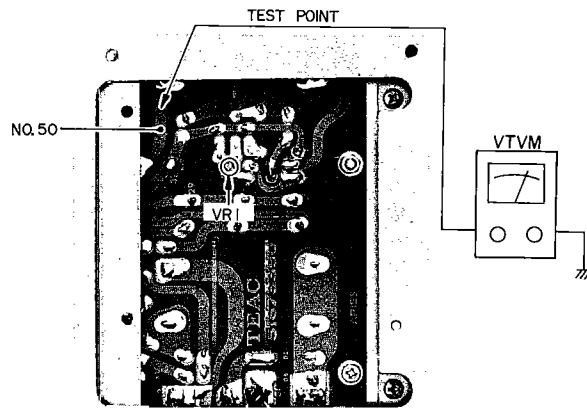

Fig. 8-2 +23 V DC Test Point T-704
3. Connect a VTVM between the Power Supply P.C.B. Test Point No. 50 and ground. See Fig. 8-2 below.